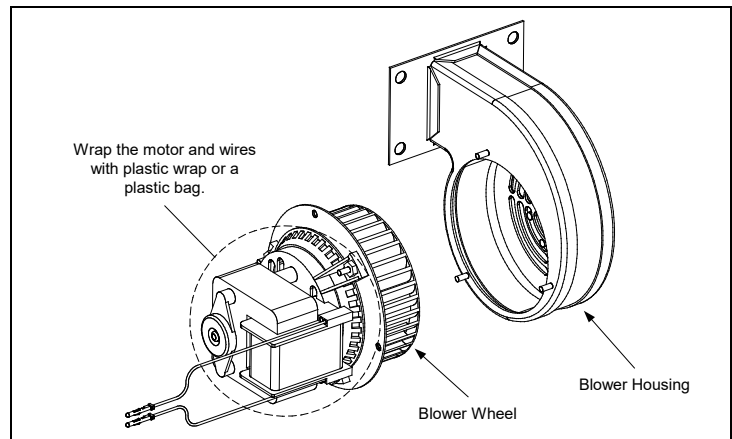

Figure 6
5. Wrap the motor with plastic wrap to prevent water from entering it. Spray degreaser or detergent on the blower wheel and the blower housing. Allow it to soak for five minutes. Rinse the wheel and housing with hot tap water, then dry with a clean cloth. (See Figure 6)